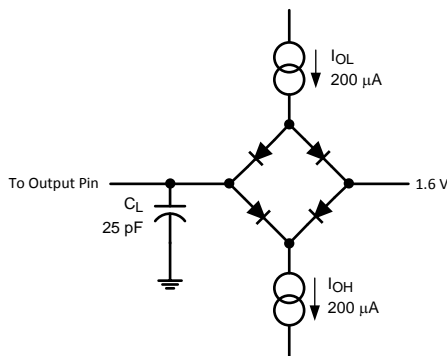

Figure 1. Timing Test Circuit
- (1) Measured with the timing test circuit shown in Figure 1 and defined as the time taken by the output signal to cross 1.0V.
- (2) Measured with the timing test circuit shown in Figure 1 and defined as the time taken by the output signal to cross 1.0V or 2.0V.
- (3) t_{DIS} is derived from the time taken by the outputs to change by 0.5V with the timing test circuit shown in Figure 1. The measured number is then adjusted to remove the effects of charging or discharging the output capacitance. This means that t_{DIS} is the true bus relinquish time, independent of the bus loading.